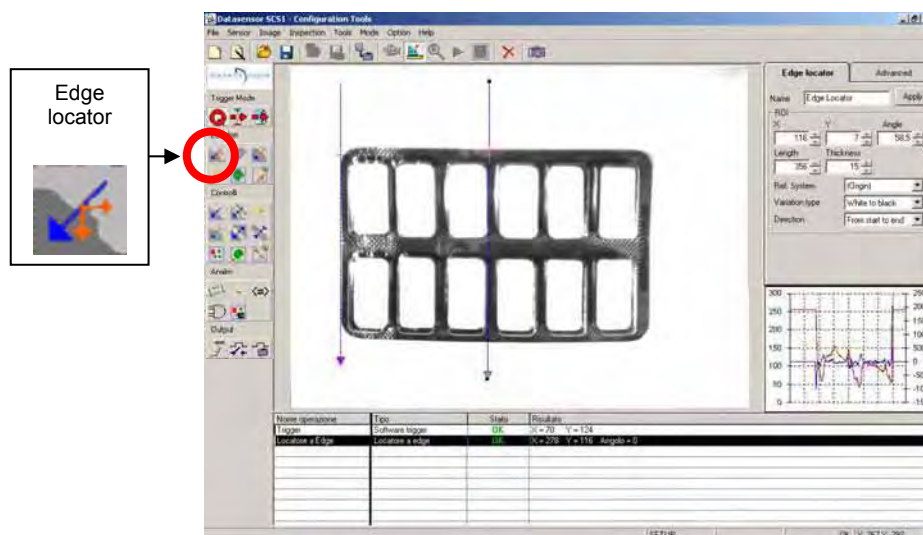

Figure 12
- Select the locator clicking on the toolbox icon (Figure 12) or from the menu (Operators → Locators → *Edge Locator*).